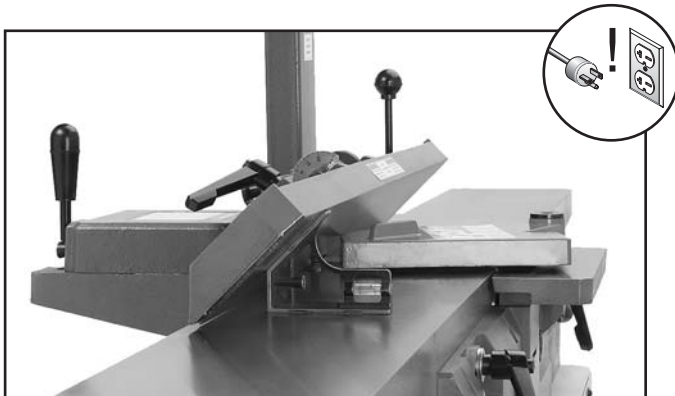

Figure 73. Fence adjusted 45° inward.
1. Tilt the fence approximately 45° inward onto the positive stop bolt, as shown in **Figure 73**, then place the 45° square against the fence and table.